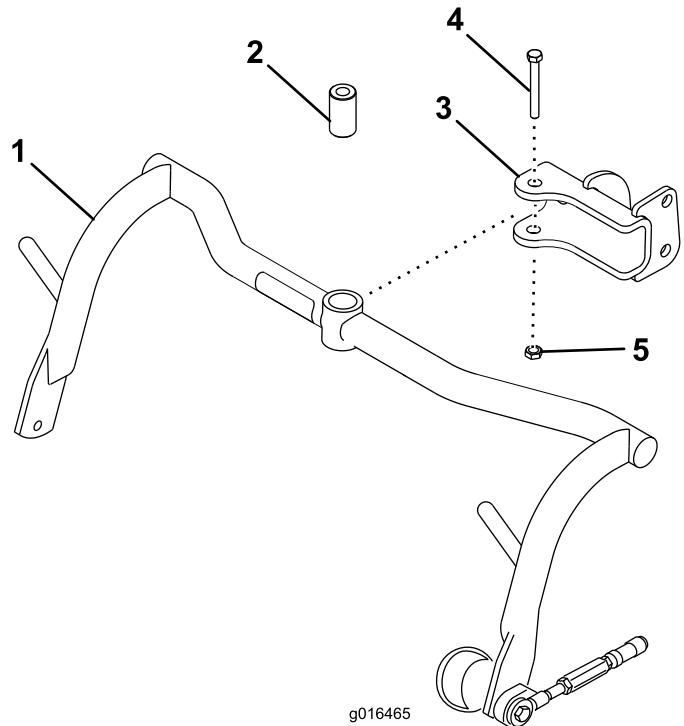

Figure 8
- Mount a carrier frame assembly to each clevis with a spacer, 1/2 x 3-1/4 inch bolt and 1/2 inch lock nut (Figure 8). Torque to 67-83 ft-lb (91-113 N-m).